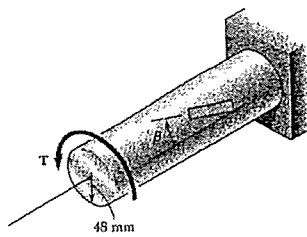

Figure 1
- (20 Points) A single strain gage is cemented to a solid 96-mm-diameter shaft at an angle $\beta = 20^\circ$ with a line parallel to the axis of the shaft as shown in Figure 1. Determine the torque T corresponding to a gage reading of 400μ . Use Young's modulus $E = 35GPa$, shear modulus $G = 13.46GPa$, and Poisson's ratio $\nu = 0.3$ for the shaft.